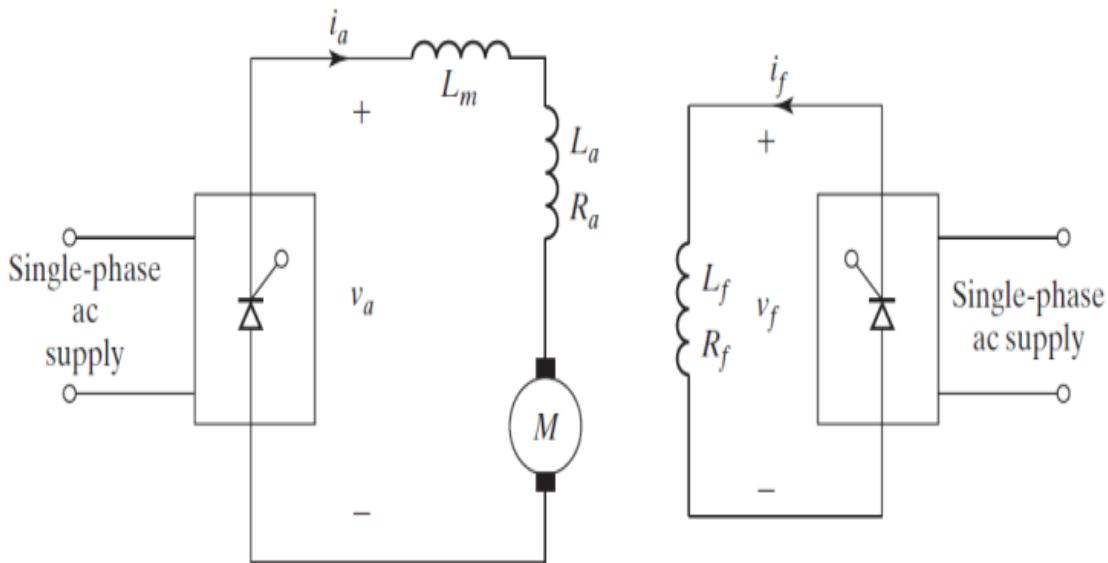

Figure 7.Basic circuit arrangement of a single-phase dc drive.
If the armature circuit of a dc motor is connected to the output of a single-phase Controlled rectifier, the armature voltage can be varied by varying the delay angle of the converter α_a . The forced-commutated ac–dc converters can also be used to improve the power factor (PF) and to reduce the harmonics. The basic circuit arrangement for a single-phase converter-fed separately excited motor is shown in Figure 7.